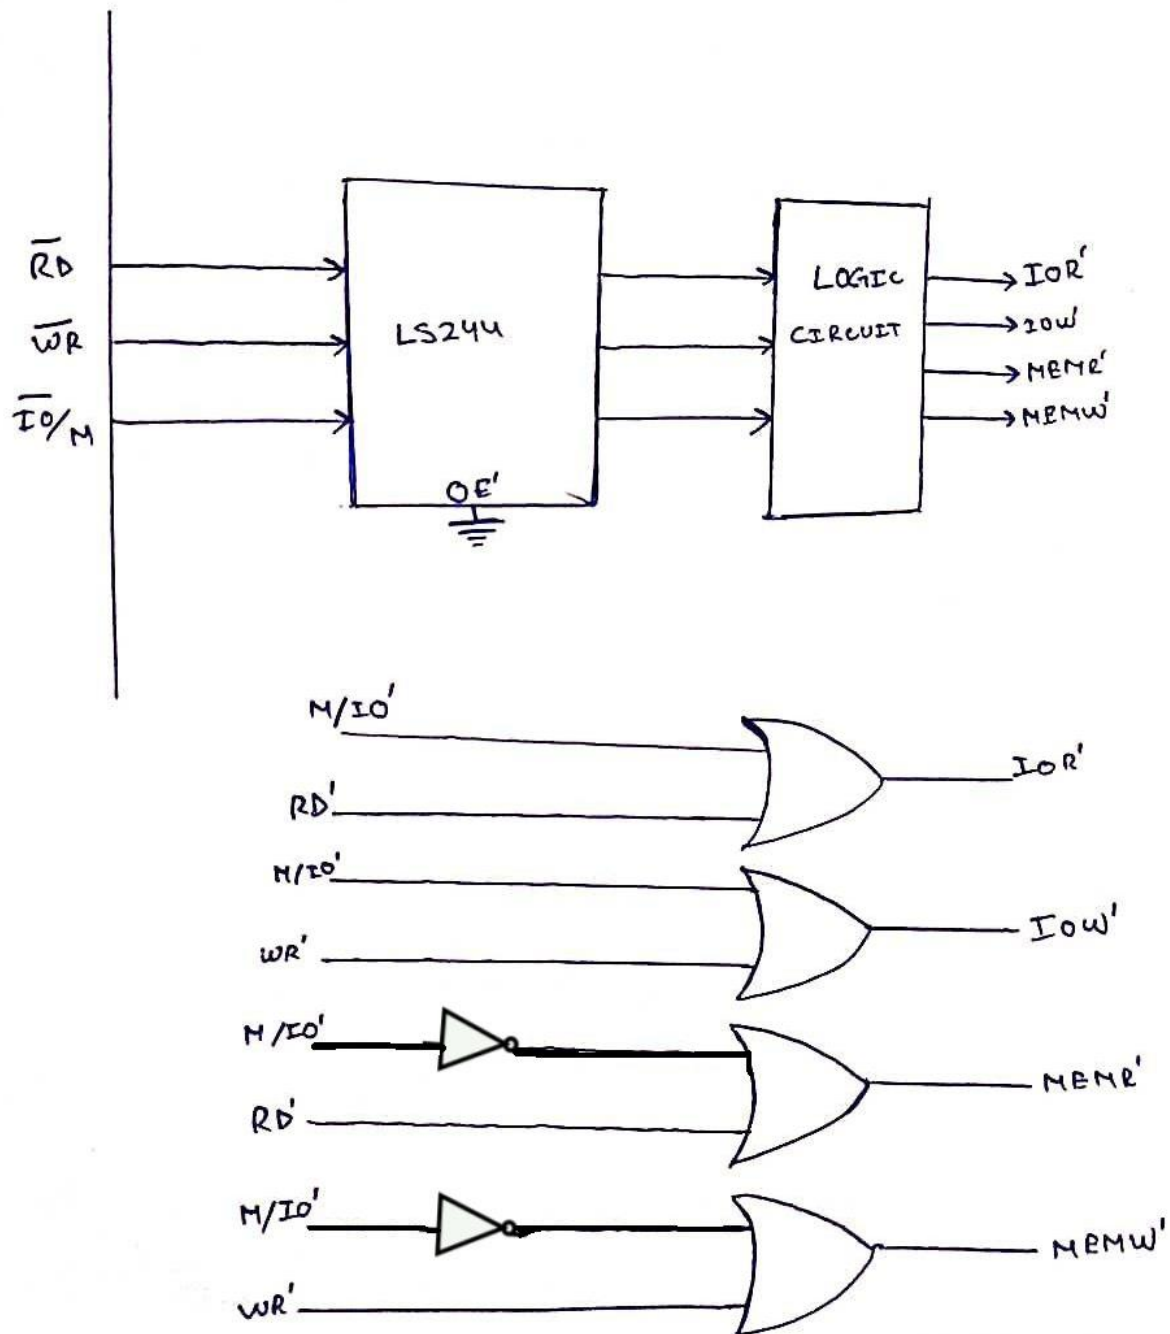

Fig 19.14
5. Control Bus of 8086	(Fig 19.14)